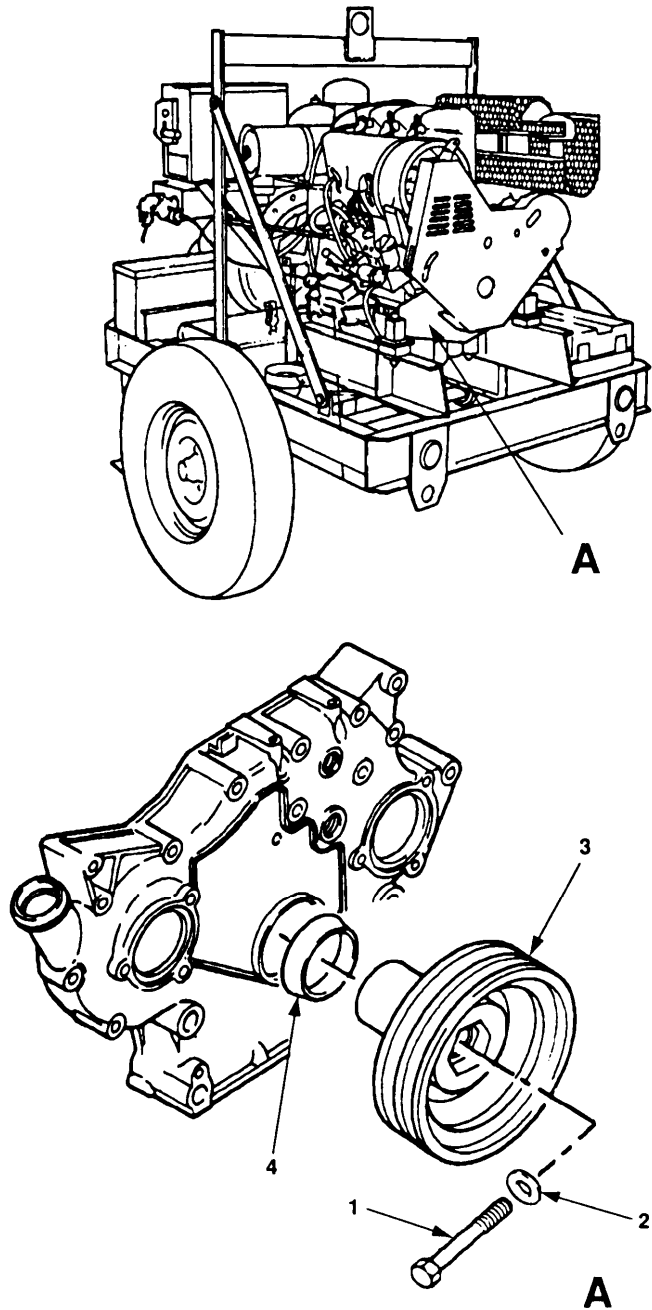

Figure 5-10. Crankshaft Pulley and Seal Maintenance.
- a. Using 36 mm socket turn bolt (figure 5-10, 1) clockwise while restraining pulley and remove bolt (1), washer (2), and pulley (3).
- b. Install bolt (1).
- c. Using seal removing tool, remove crankshaft seal (4) and discard.
- d. Remove bolt (1).
- b. Position crankshaft seal (4) to engine (lip inward). Press on crankshaft seal using front crankshaft seal installer.